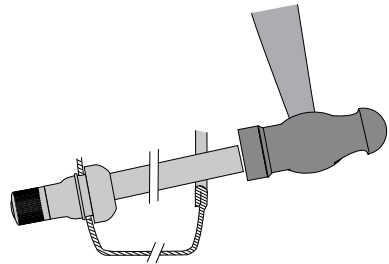

Figure 6 – Tap valve into place
9. Rap the end of the dowel sharply with a hammer to drive the valve into position. Be sure the shoulder on the valve seats against the tank head (the ridge around the valve body should be all the way through the hole in the tank head – see Figure 6).